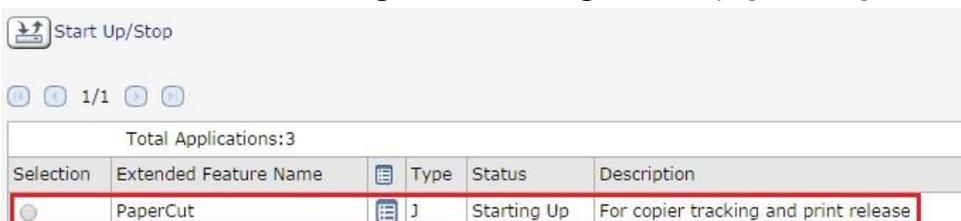

Figure 10: Confirming installation.
7. The application will be installed. You can confirm by selecting **Startup Setting** under **Extended Feature Settings** on the **Configuration** page (see Figure 10).